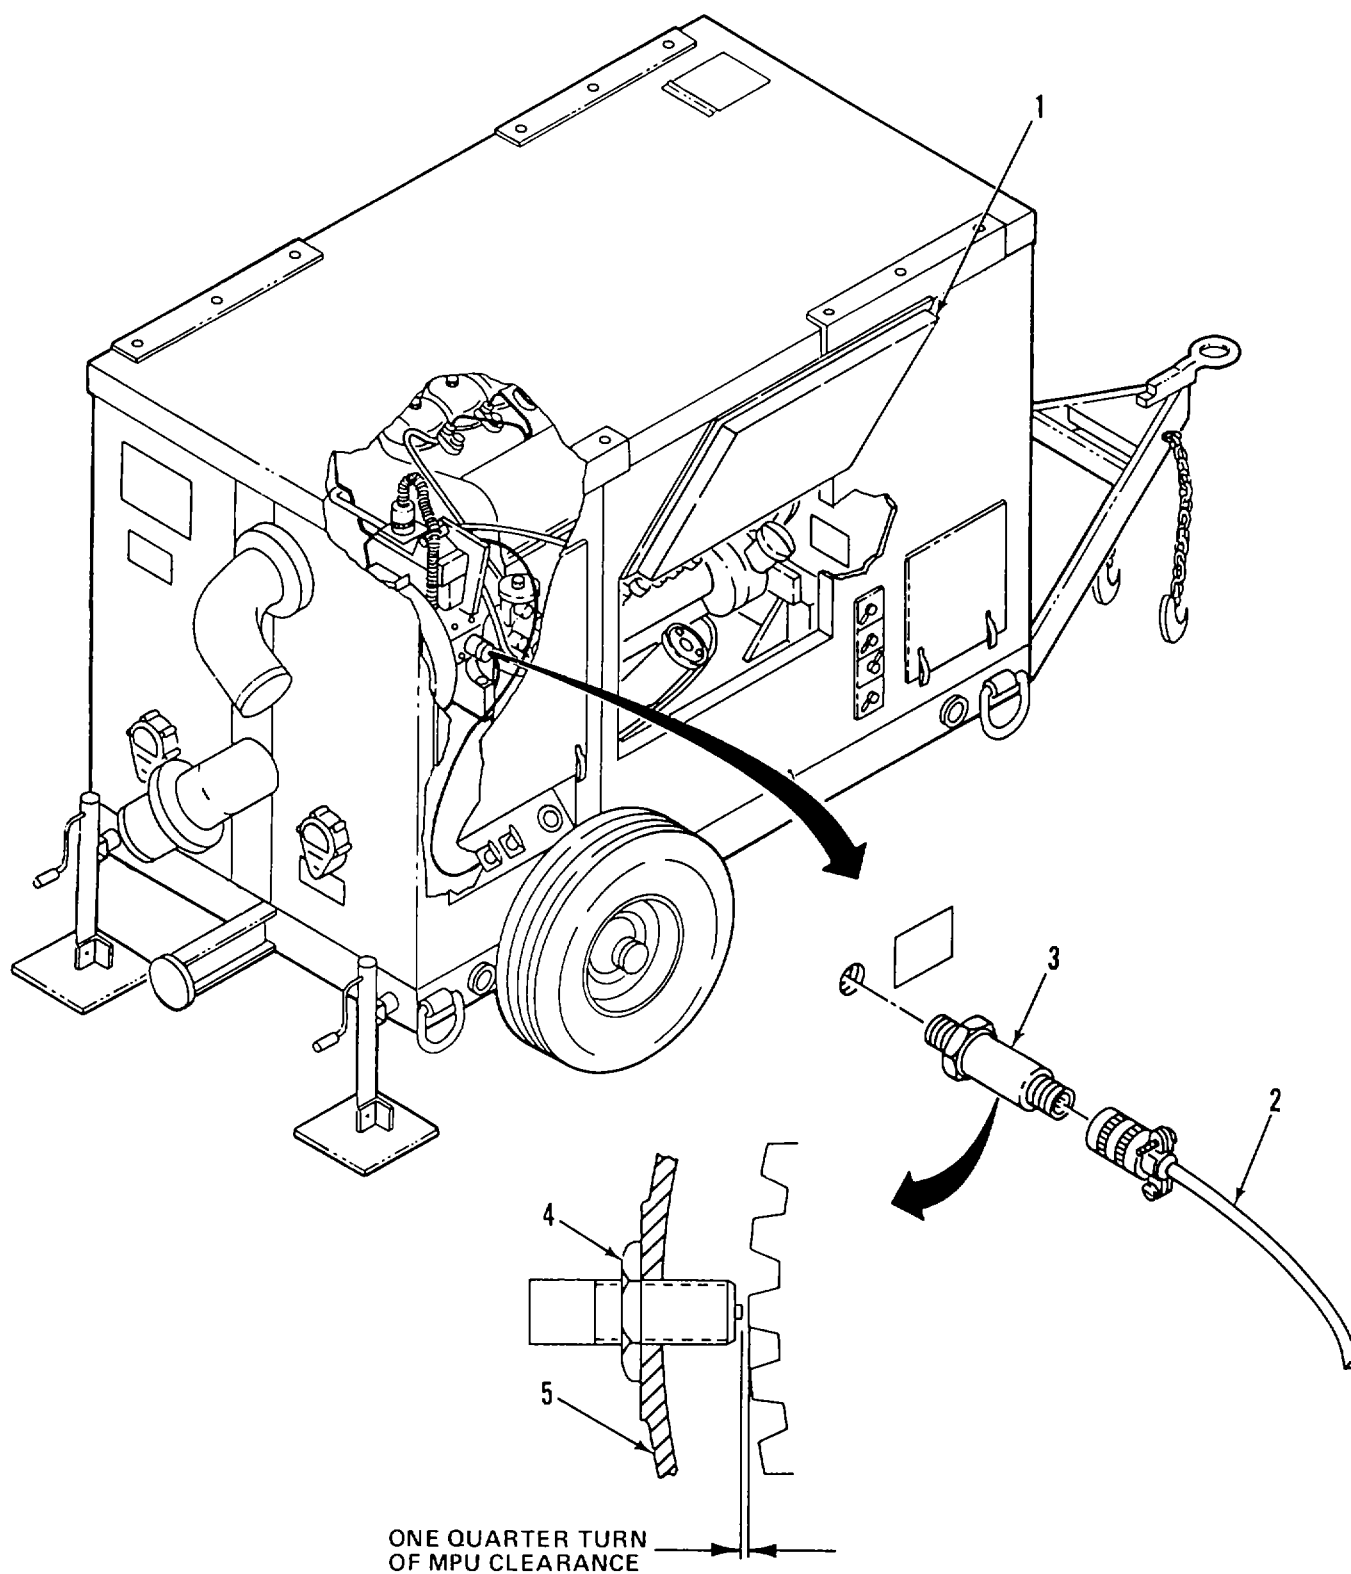

Figure 2-23. MPU
a. REMOVE. (Figure 2-23)
- (1) Open engine access door (1).
- (2) Disconnect cable (2) from MPU (3).
- (3) Loosen jam nut (4).
- (4) Unscrew MPU (3) from engine bell housing (5).